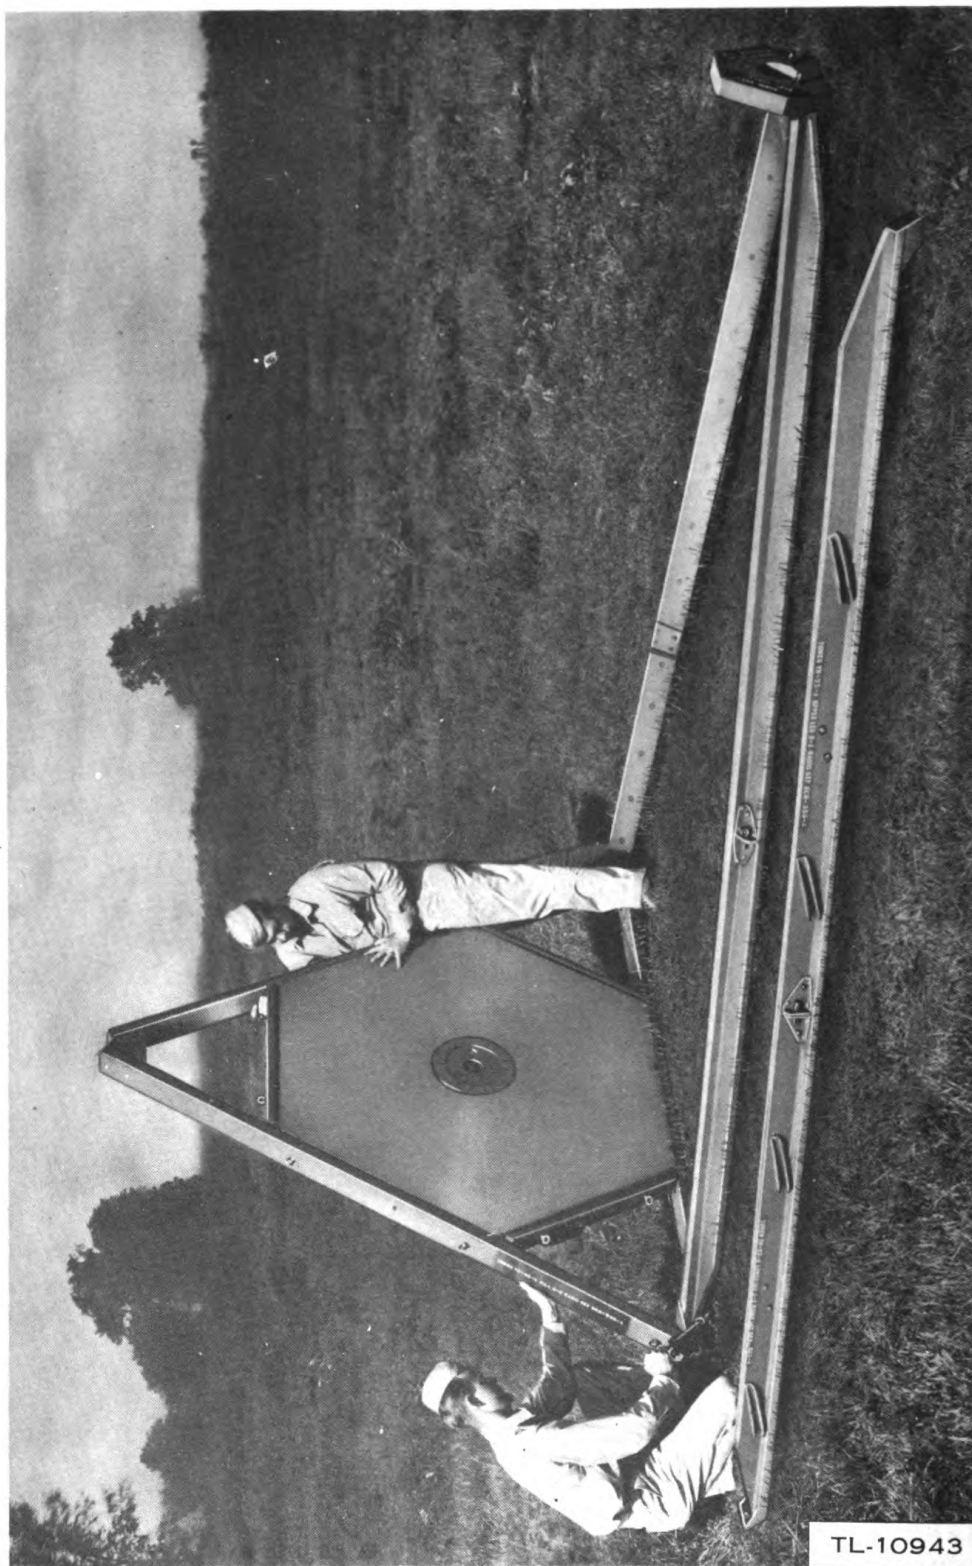
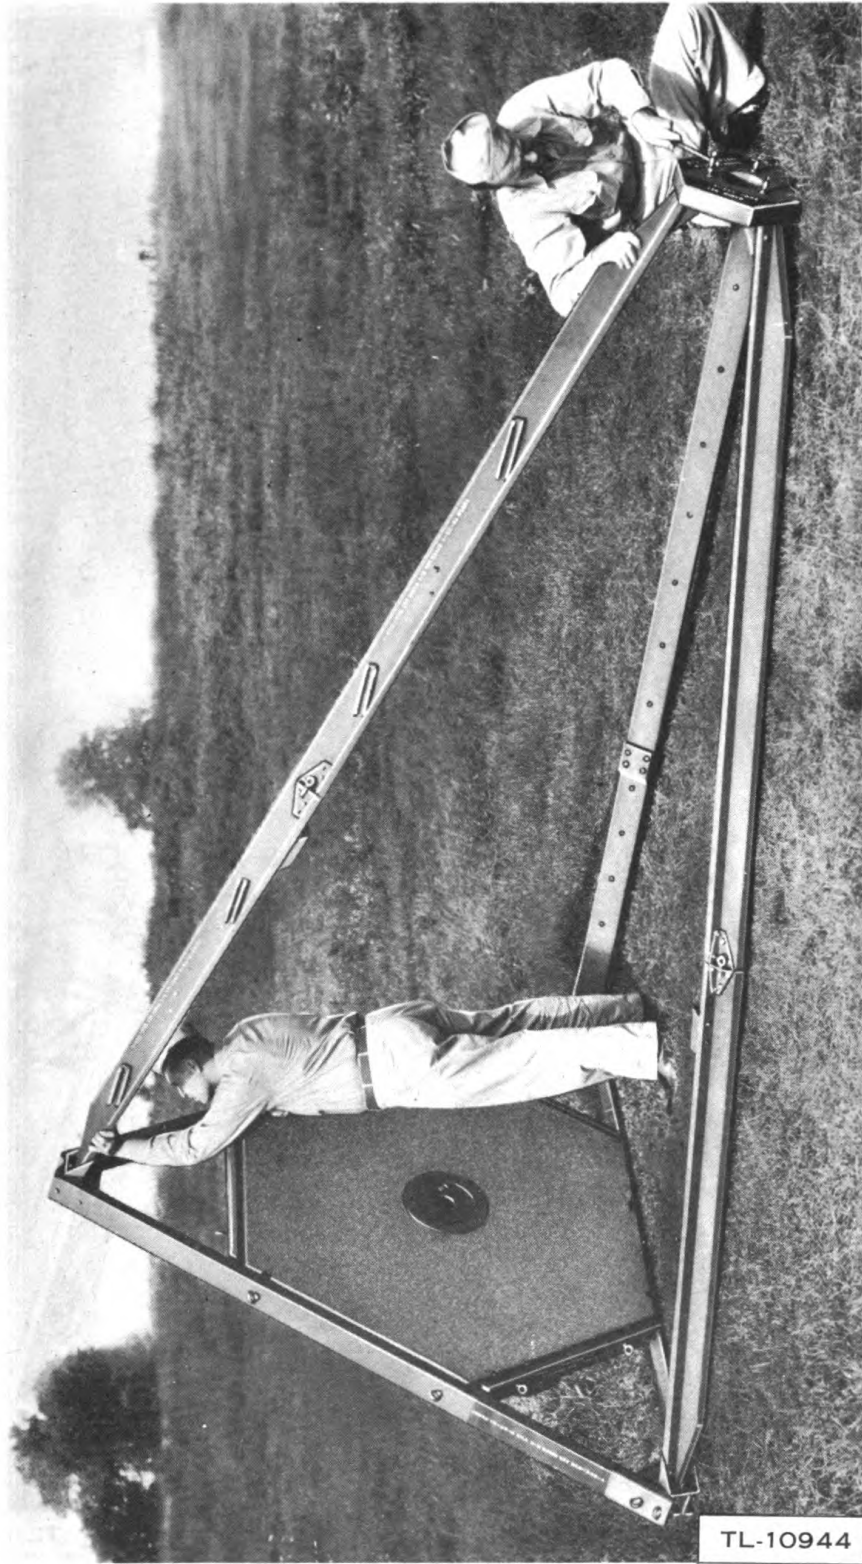

Figure 11. Assembly of two tower legs to floor and apex block.
Figure 12. Assembly of third tower leg to floor and apex block.
(6) Bolt two of the tower leg assemblies to the lower side of the apex block. The lower side of the apex block has three cutouts to prevent the tower legs from turning after they are secured in place. Do not tighten the bolts securing the tower legs to the apex block at this time. During this assembly, the tower legs should lie on the ground. Lift the floor to a vertical position (fig. 11), and fasten the lower ends of two of the tower legs to the floor sills with $\frac{3}{4}$ -inch eyebolts. Install the third tower leg in place, bolting the ends to the apex block and the floor (fig. 12). Do not tighten these bolts.